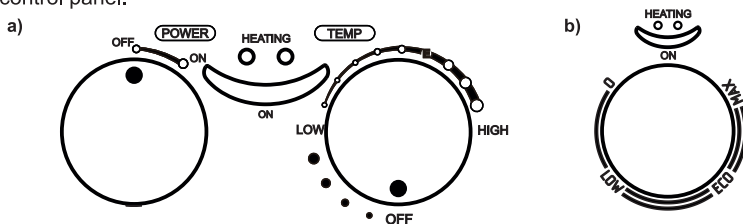

Fig. 3 Control panel knobs of the water heater: a) «WH» models, b) «TT WH» models
7.1.5. To turn on the water heater in models equipped with a switch (Fig. 3, a) it is necessary to turn the "POWER" knob to the "ON" position. In models equipped with only the adjustment knob (Fig. 3, b) when the plug is connected to the socket, the indicator "ON" lamp in the central part of the control panel.
7.2.1. In models equipped with external control (Fig. 3), water temperature can be controlled by a handle connected to the thermostat in accordance with marks.
7.2.2. The temperature is set by using the regulation knob (Fig. 3, a) "TEMP" clockwise to increase the temperature of heating and counterclockwise to decrease it.
7.2.3. The indicator lamp (Fig. 3, "HEATING") is constantly lighting during heating phase and turns off after reaching the set temperature.
7.2.4. It is recommended to install the controller in a position "Fig. 3, a) E and Fig. 3, b) ECO" corresponding approximately to 75% of the maximal value. In this case, the appliance is operated in economy mode significantly reducing the rate of scale formation.